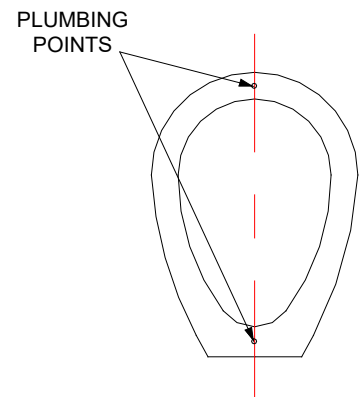

Fig 1
4. The Ovoid pipe should be mated with the previously laid pipe socket lining up the jointing lines (see Fig 1) cast in the crown of the pipes. The spigot should enter the socket with an even gap around the pipe. **Lubricants MUST NOT** be used